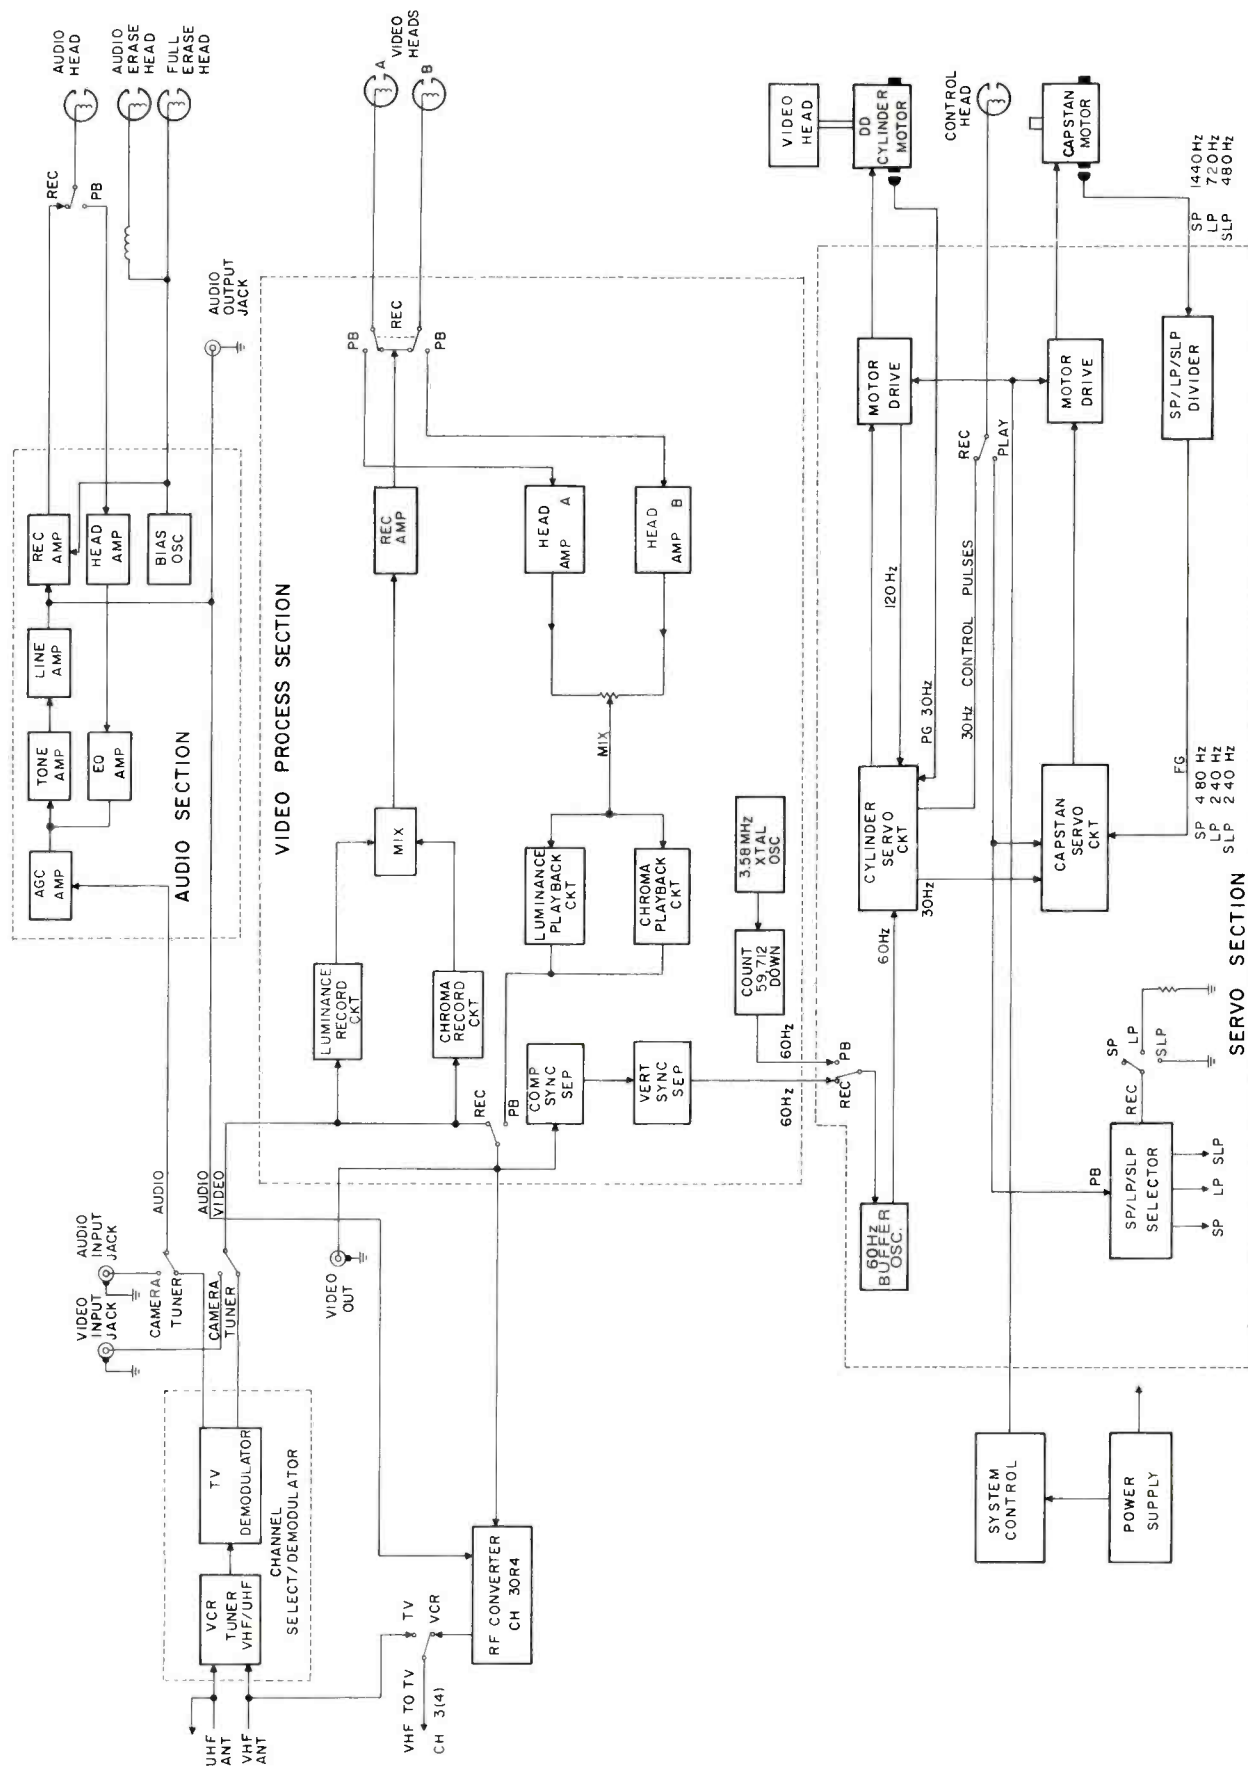

Figure 1
Servo circuits are shown near the bottom of Figure 1. A servo
Figure 1. (opposite page) A block diagram of a VHS videocassette recorder/player. Dotted lines enclose the video signal-processing section (top) and the servo-control section (bottom). The direct-drive (DD) head-cylinder motor and the capstan motor are speed- and phase-controlled by these servo circuits.